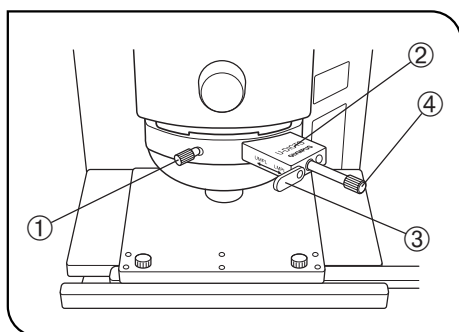

Fig. 7
2 Setting the DIC Slider (Fig. 7)
(Fig. 7)
1. Adjust the background contrast by turning the prism movement knob ④ on the DIC slider as described below. (Fig. 7)